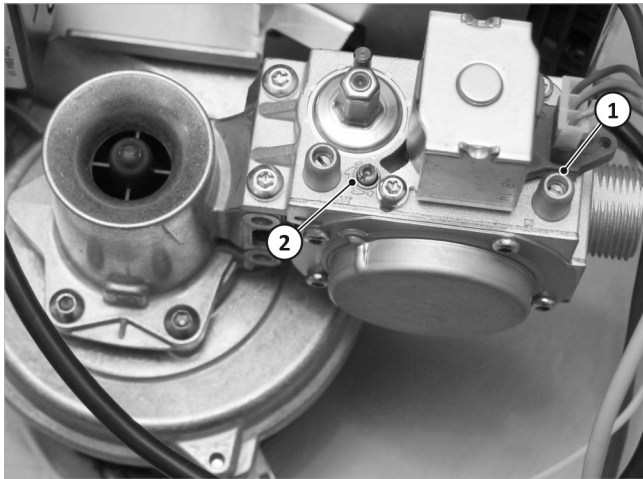

Fig. 124: Setting the burner
- The measurement connection is used to check the gas' flow pressure when the burner is in operation → fig. 124 (1).